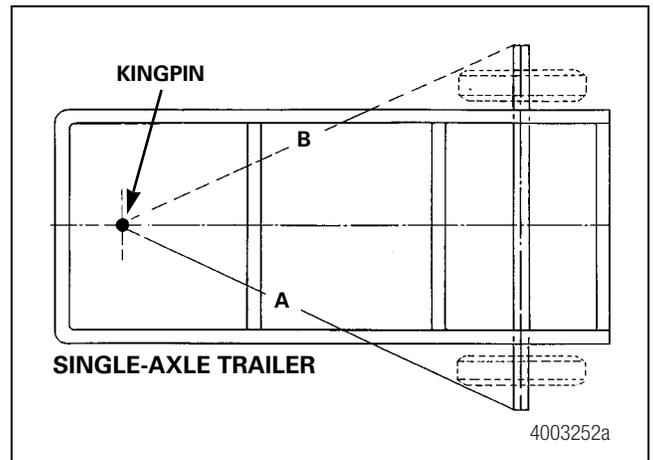

Figure 8.8
4. Attach a steel measuring tape to a hook. Attach the hook to the kingpin and measure distance "A" on the roadside and "B" on the curbside of the trailer. Figure 8.8. The difference between these dimensions must not exceed  $\pm 0.0625$  inch ( $\pm 1.59$  mm). Adjust the axle, if necessary, to bring this difference within specification.